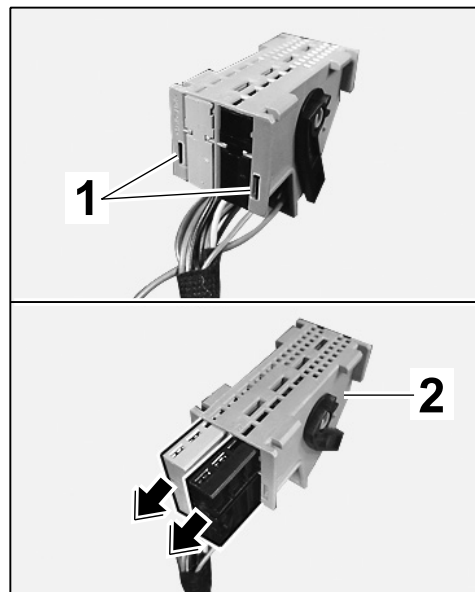

Figure 14
- 2.4.1 Open locking mechanisms ⇒ *Figure 14-1-* and slide both plug sockets ⇒ *Figure 14 -arrows-* out of the blue plug carrier.